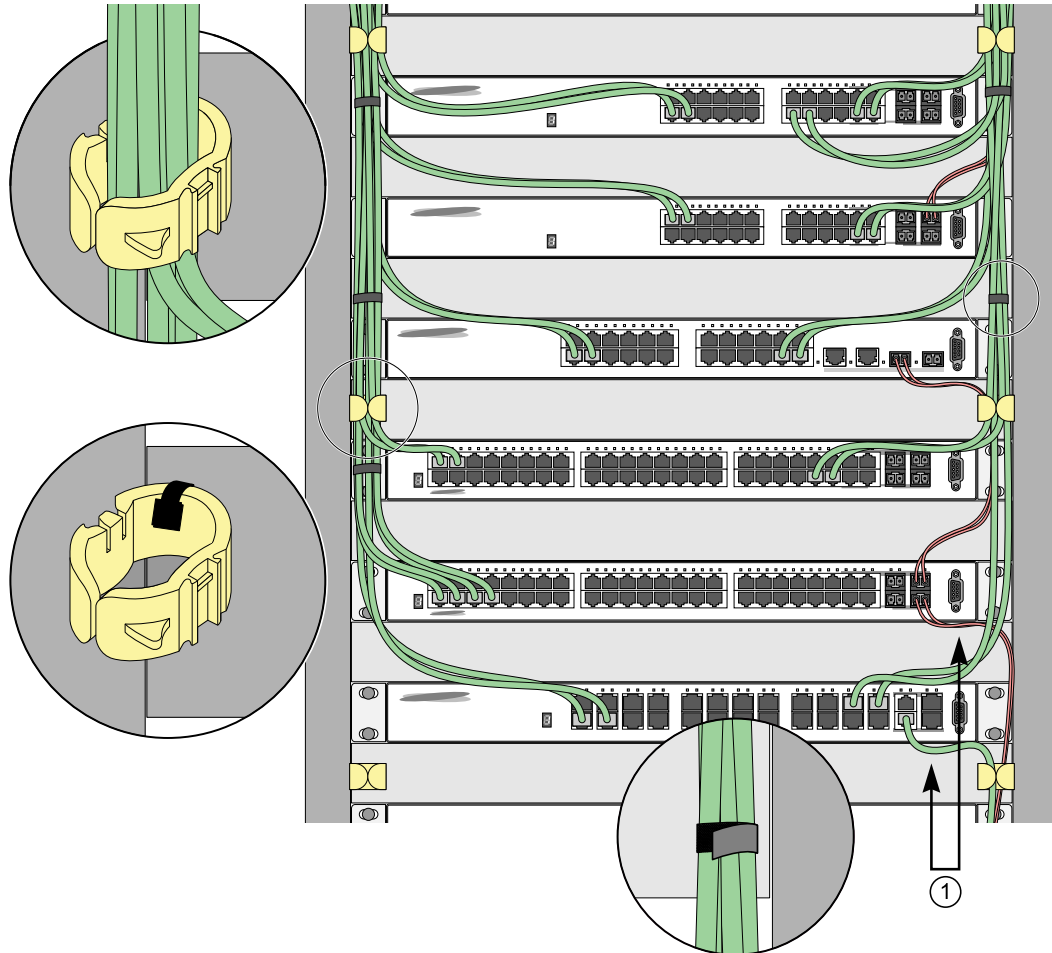

Figure 10: Properly Installed and Bundled Cable
- Provide enough slack, approximately 5 to 7.5 cm (2 to 3 in), to provide proper strain relief as shown in Figure 10 on page 27.
- When installing a patch panel using twisted pair wiring, untwist no more than 2.5 cm (1 in) of the cable to avoid radio frequency (RF) interference.